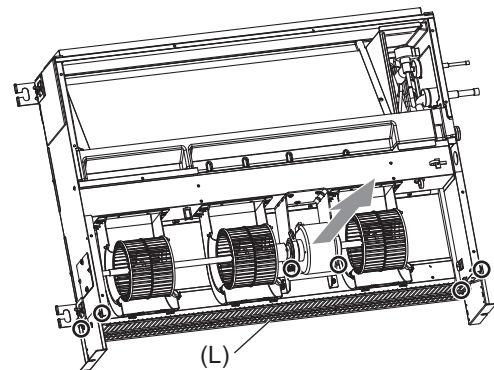

Fig.18
- (1) Remove the four fan guard (L) screws to remove it. (Fig.18)
- (2) Remove the two motor fixing screws to remove the motor and the Sirocco fan in the direction of arrow. (Fig.18)